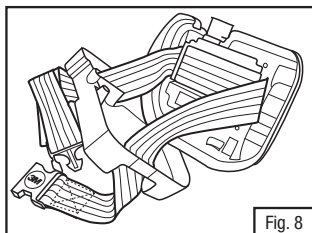

Fig. 8
3. Thread the belt through the slots on the rear cover and snap the back cover onto the assembly (Fig. 8).